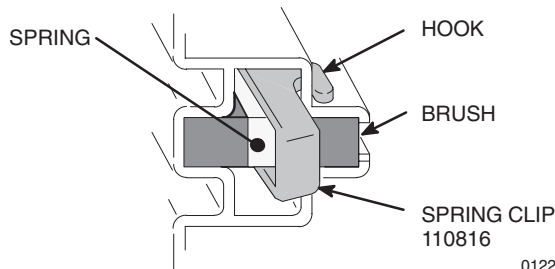

Fig. 10 01227
3. Push in spring clip to release hooks from brush holder. Pull out spring clip. See Fig. 10.